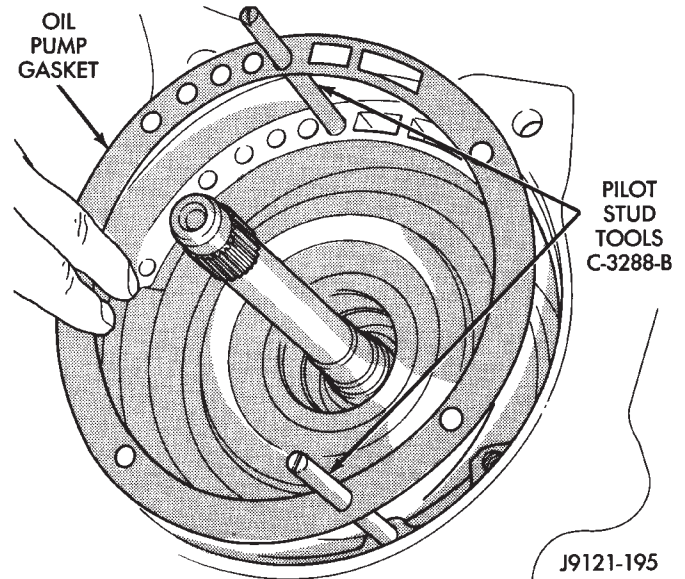
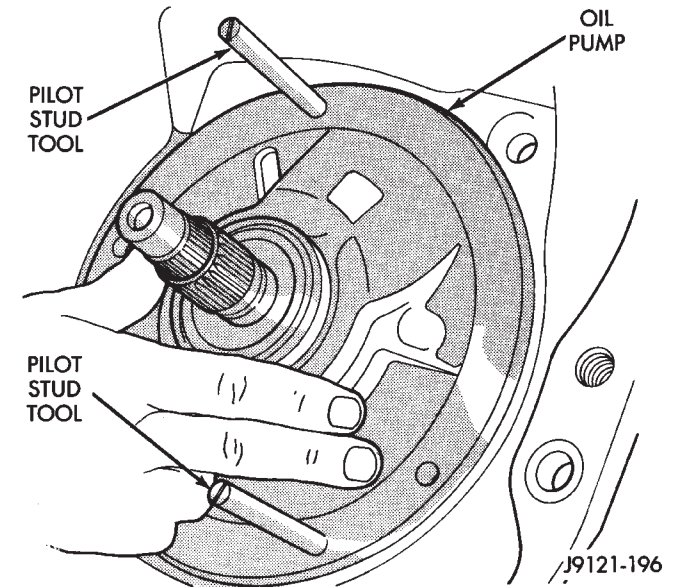

Fig. 108 Installing Pilot Studs And Oil Pump Gasket
Fig. 109 Installing Oil Pump And Reaction Shaft Support
(38) Thread two Pilot Stud Tools C-3288-B into bolt holes in oil pump flange (Fig. 108).
(39) Align and install oil pump gasket (Fig. 108).
(40) Lubricate oil pump seals with Mopar® Door-Ease, or Ru-Glyde, Door Eze, or ATF Plus 3.
(41) Install oil pump (Fig. 109). Align and position pump on pilot studs. Slide pump down studs and work it into front clutch hub and case by hand. Then install two or three pump bolts to hold pump in place.
(42) Remove pilot stud tools and install remaining oil pump bolts. Tighten bolts alternately in diagonal pattern to 20 N·m (15 ft. lbs.).